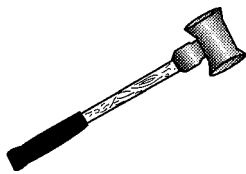

FIGURE 1-1. Cable bender.
**Cable Bender.** A cable bender is used to bend cable in close quarters with a minimum of effort. Most cable benders have insulated handles for the user's comfort. Figure 1-1 shows a typical cable bender. This one can handle cable up to 750 MCM.